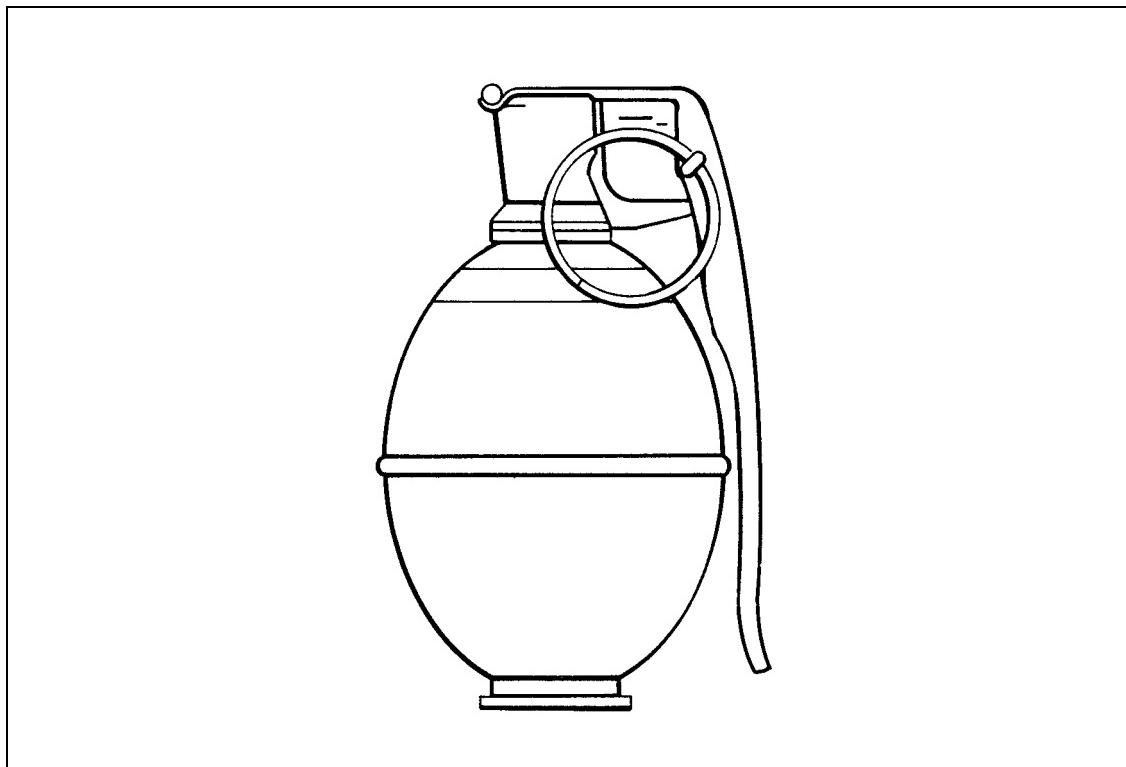

Figure F-15. L2A2 hand grenade.
- Type: Fragmentation. (Figure F-15)